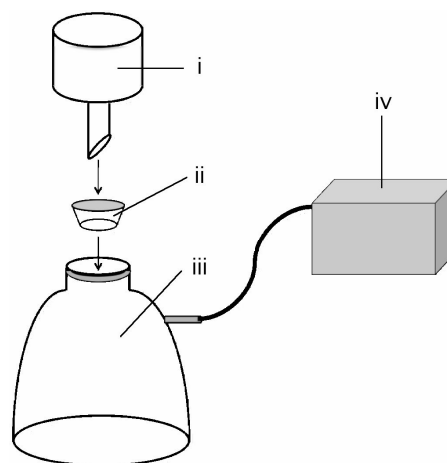

Fig. 1.3 Suction filtration equipment: i, Büchner funnel; ii, rubber adapter; iii, suction flask; iv, diaphragm vacuum pump.
(6) Set up the suction filtration equipment (see Fig. 1.3). Connect the suction flask to the diaphragm vacuum pump. Place a Büchner funnel fitted with a rubber adapter onto the suction flask. Place a glass microfiber filter sheet on the funnel.
(7) Add water (5 mL) to the reaction mixture using a 10-mL plastic graduated cylinder. Add sodium metabisulfite (1 g), transfer the contents of the tube (including the stirring bar) into a 200-mL conical beaker and wash the test tube with water (30 mL). Place the 200-mL conical beaker on the magnetic stirrer and stir the solution. Add saturated sodium